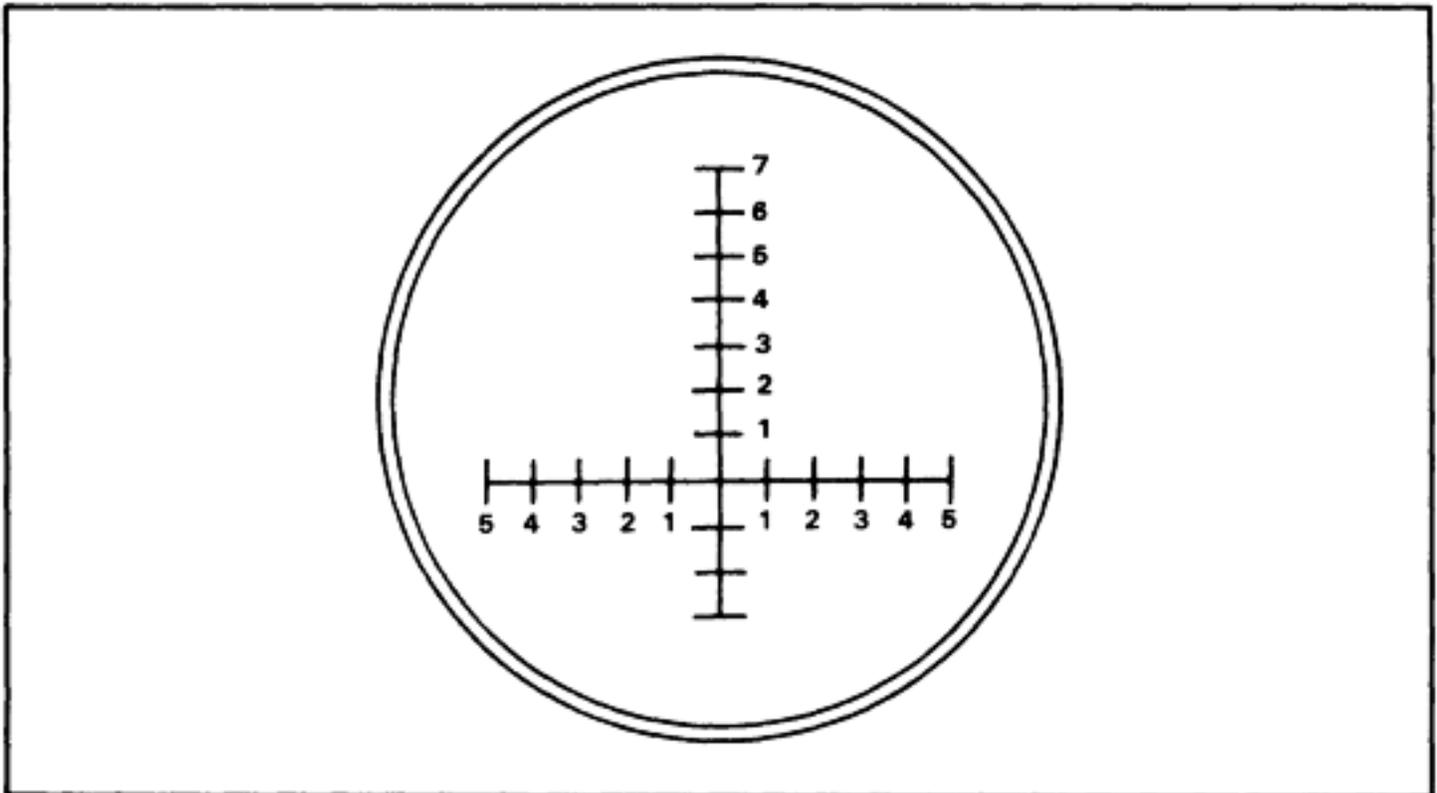
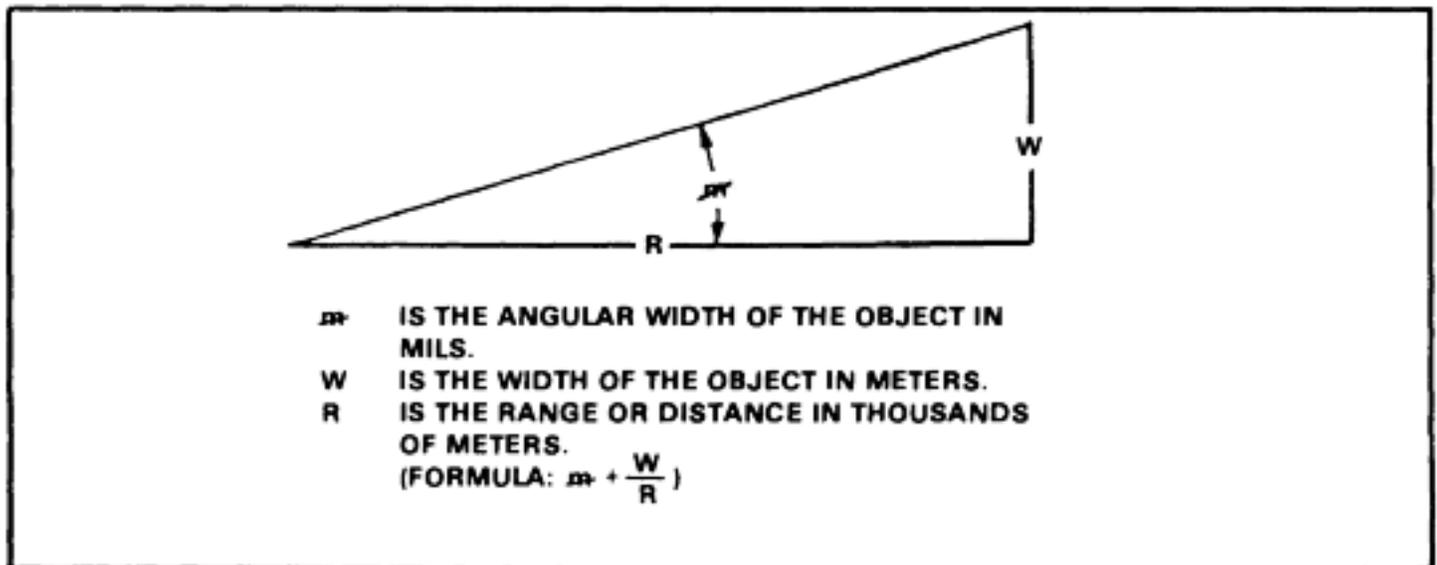

Figure 6-6. M19 binocular reticle.
Figure 6-7. Mil relation.
Binoculars can be used to determine range. The recently adopted M19 binocular, unlike other models, is a lightweight, compact instrument intended for use in general field observation and fire direction. The binocular's left telescope includes horizontal and vertical reticles graduated in 10-mil increments (Figure 6-6). When using binoculars to determine range, the soldier must understand the mil relation (Figure 6-7).
a. The mil ( $m$ ) is the unit of angular measurement used in adjusting fire. A circle has 6,400 mils. At a distance of 1,000 meters, an object 1 meter wide measures 1 mil. Change mils to meters by multiplying the number of mils times the range (distance) in thousands of meters. Obtain the unknown width or range to an object (Figure 6-7) using a similar method.
b. The mil relation, as shown in Figure 6-7, is  $\text{mil} = \frac{W}{R}$ ; when  $\text{mil}$  is the angular width of the object in mils,  $W$  is the width of the object in meters, and  $R$  is the range or distance in thousands of meters.
(1) To find Width when the known Range is 4,000 meters and the object is 15  $\text{mil}$  wide, multiply ( $R \times \text{mil}$ ) 4 (range in thousands) times 15 (mils). The answer is 60 (meters), or  $4 \times 15 = 60$  meters.